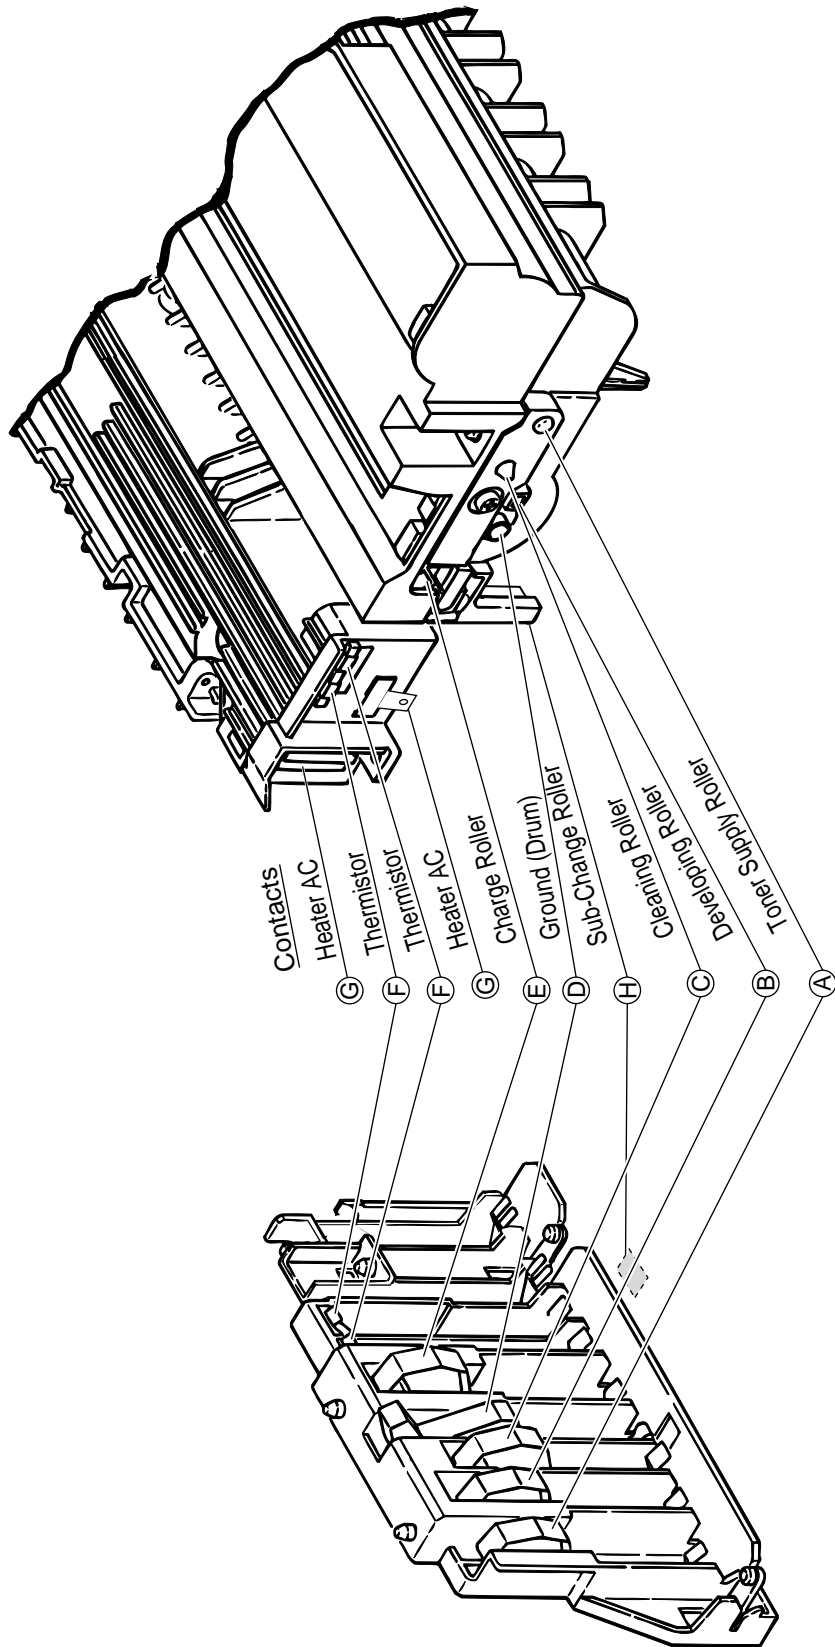

Figure 6-4
- ▼ Yes Check the heater connector cord and the heater contact for poor contact (see Figure 6-4 contact ③).
- ▼ Yes Are the contact of the developing roller and the contact of the toner supply roller of the image drum cartridge in contact with the contact assembly properly (see Figure 6-4 (A) and (B))?